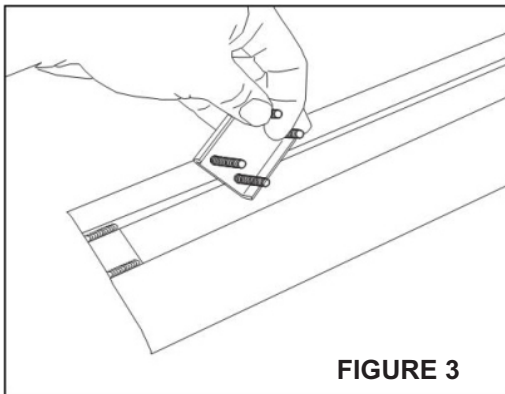

FIGURE 3
- STEP 4. Attach step bars using M6 hardware SEE FIGURES 3, 4, AND 5.